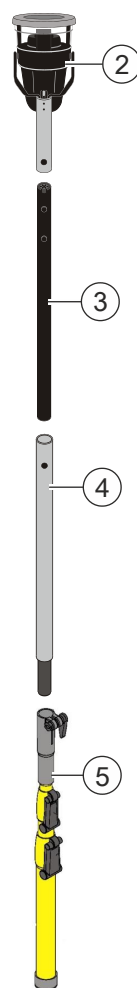

Fig. 2
2. Fit the RE7T-A Solo719 adapter (4) on the rechargeable battery (3) (Fig. 2).
3. Fit an FDUM29x telescope rod (5) on the RE7T-A Solo719 adapter (4) (Fig. 2).